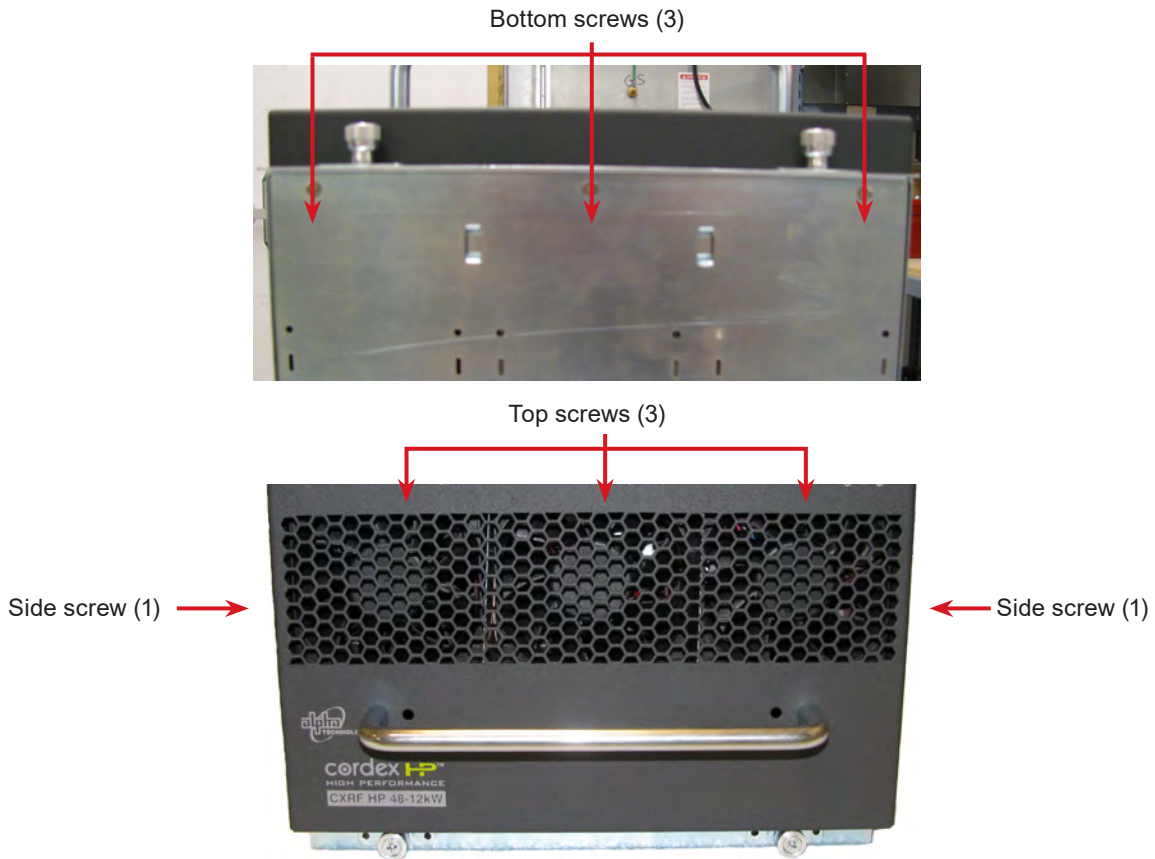

Figure 11 — Fan Assembly - Screw Removal
2. Remove the eight screws shown in Figure 11.